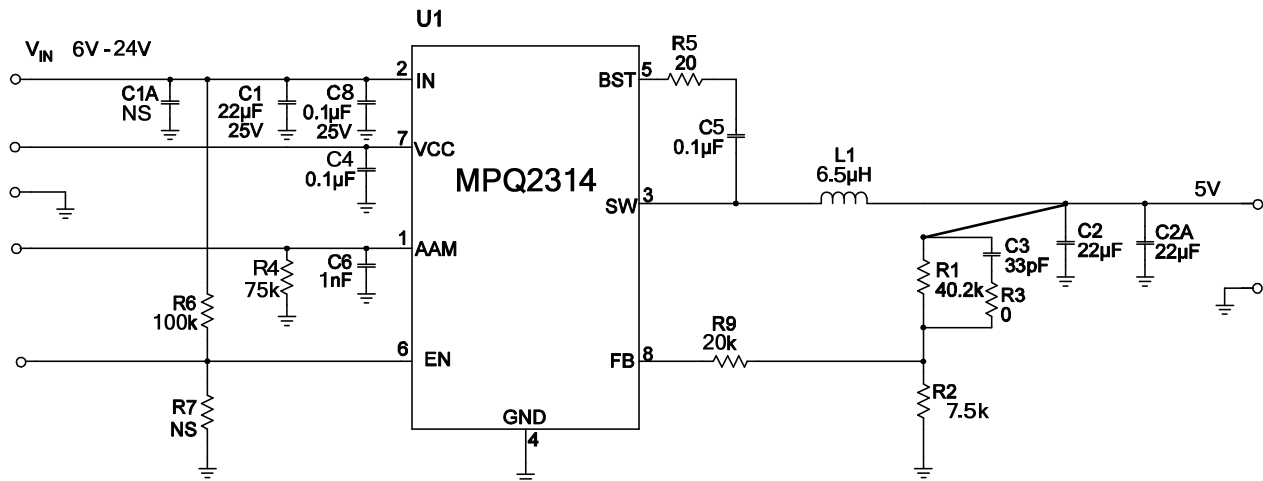

Figure 9: $V_o=5V$, $I_o=2A$
- 6) The recommended layout is based on the Figure 9 Typical Application circuit on the next page.
The detailed application schematics are shown in Figures 9 through 14. The typical performance and circuit waveforms have been shown in the Typical Performance Characteristics section. For more device applications, please refer to the related Evaluation Board Datasheets.